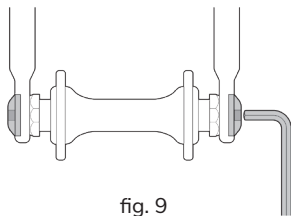
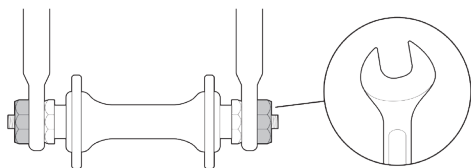

fig. 9
fig. 10
- A hollow axle with a shaft (“skewer”) running through it which has a nut on one end and a fitting for a hex key, lock lever or other tightening device on the other (through bolt). (fig. 9)
- Hex nuts or hex key bolts which are threaded on to or into the hub axle (bolt-on wheel). (fig. 10)
3. If your bike has through bolt or bolt-on front wheel retention (fig 9, fig 10), loosen the fastener(s) a few turns counter-clockwise using an appropriate wrench, lock key or the integral lever. Then go to step (4).